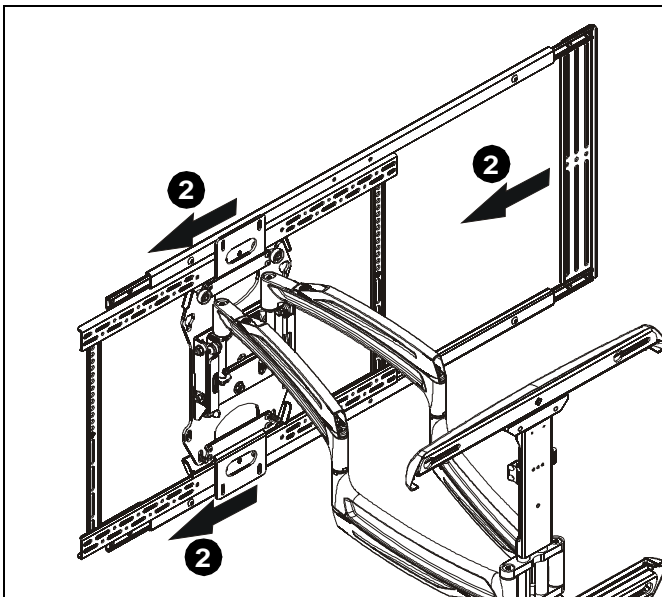

Figure 6
2. Slide connected horizontal brackets (A) and speaker bracket (C) onto back of display until center two holes on top horizontal bracket are aligned with two slots on top of attachment bracket (B). (See Figure 6)